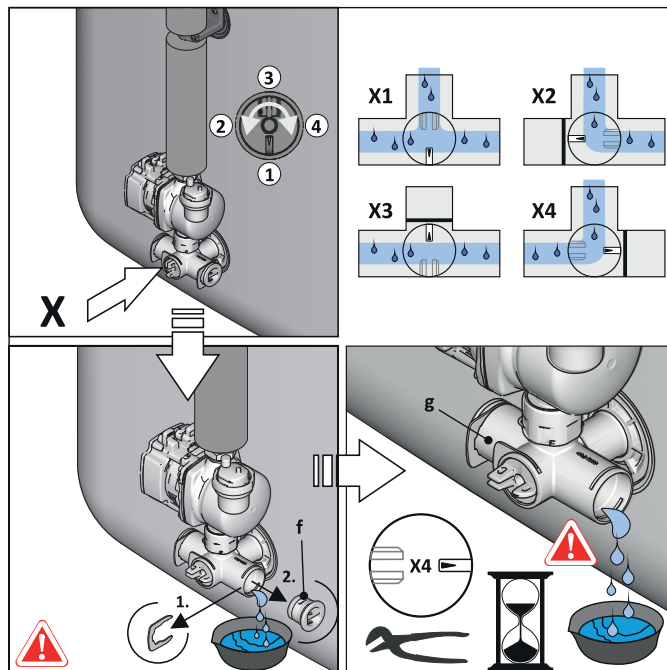

Fig. 5-5 Shut off the valve insert, remove the blind plug from the connection bracket
- 1 Adjust the valve insert on the connection bracket so that the path to the blind plug is blocked off (fig. 5-5).
- 2 Place a suitable collecting tray and remove the blind plug from the connection bracket (fig. 5-5).
- 5 Adjust the valve insert on the connection bracket so that the path to the drain hose is open (see also fig. 5-5) and drain the water content of the storage tank.